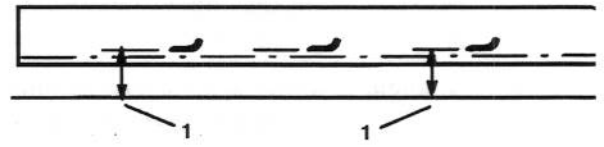

Figure 18
5. Position all three blades in the "A" position (Fig. 17) and measure from level surface to the bottom of the tip end of each blade (Fig. 18).
6. Note measurement attained at "A", rotate blades to the "B" position (Fig. 17), measure distance of all blades to level surface and note dimensions (Fig. 18).